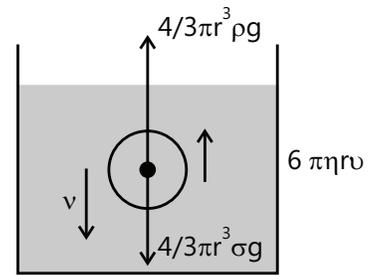

Figure 27.12
**Principle:** When a spherical body of radius  $r$  and density  $\sigma$  falls freely through a viscous liquid of density  $\rho$  and viscosity  $\eta$  with terminal velocity  $v$ , then the sum of the upward buoyant force and viscous drag, force  $F$ , is balanced by the downward weight of the ball (Fig 27.12).
The terminal velocity depends directly on the square of the size (diameter) of the spherical ball. Therefore, if several spherical balls of different radii are made to fall freely through the viscous liquid, then a plot of  $v$  vs  $r^2$  would be a straight line as illustrated in Fig 27.12.